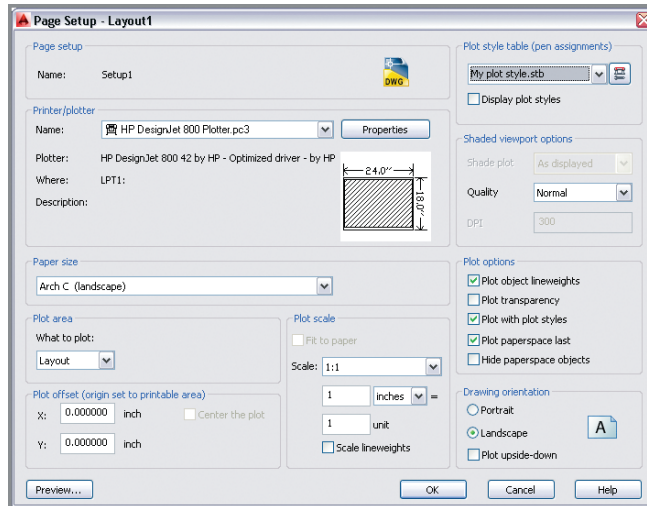

FIGURE 14.27 Configuring a new layout in the Page Setup dialog box
4. In the Page Setup dialog box that appears, click the Modify button, open the Name drop-down menu, and select HP DesignJet 800 Plotter. pc3. Then select Arch C (landscape) in the Paper Size drop-down menu. Select My plot style.stb in the Plot Style Table drop-down menu (see Figure 14.27). Click OK.